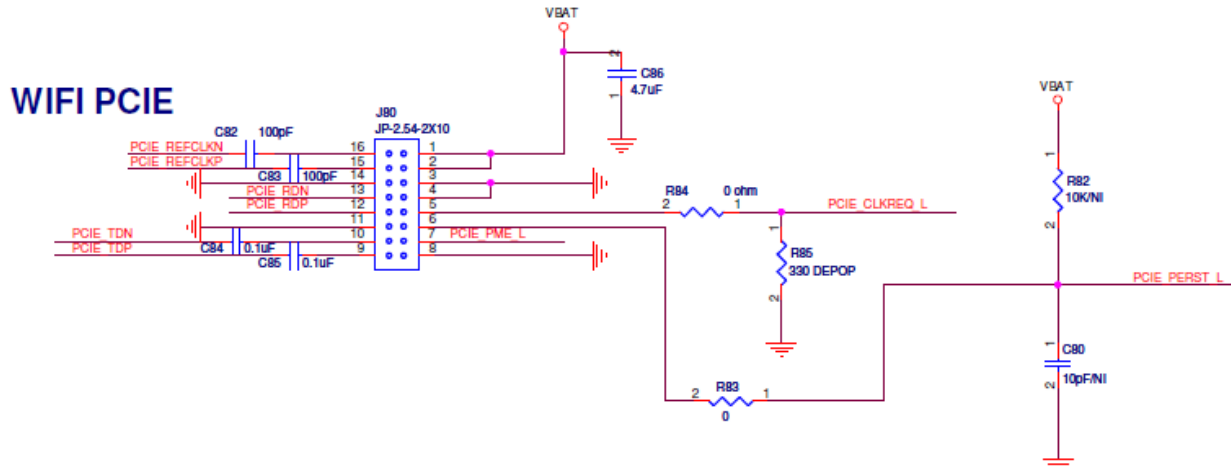

Figure2. WiFi verification connection interface to Host PCIE
- ❖ Refer to Figure2 PCIE pin definition connects the J3 interface of AP6398P evaluation board to Host PCIE control interface.